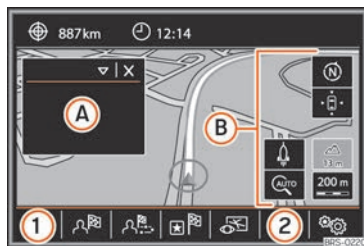

Fig. 213 Navigation main menu
- View** To modify or activate or deactivate the split screen »» Fig. 213 **A** »» page 221.